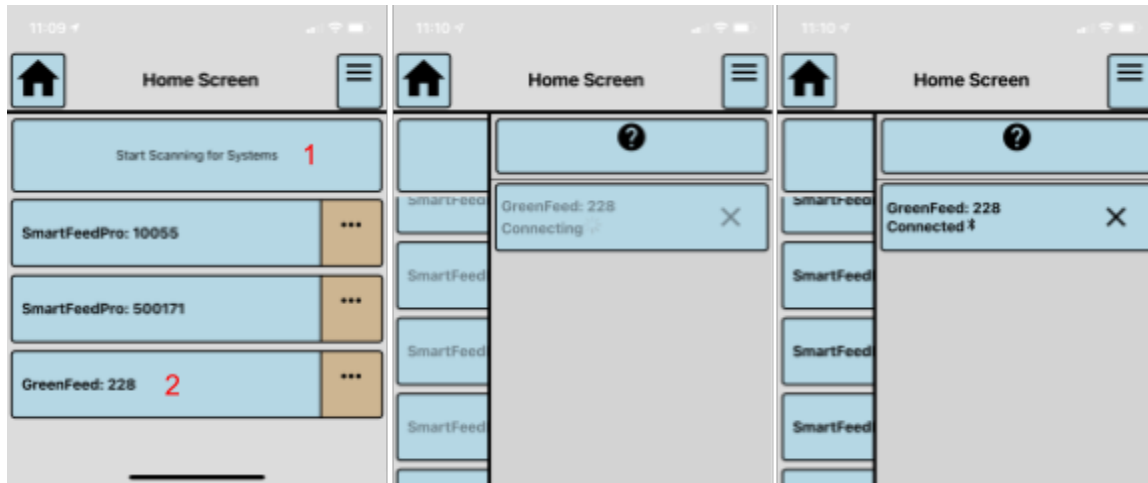

Figure 8) Scanning and Connecting to a System using Control Feed
2. A list of nearby devices will appear on the screen. See **Figure 8**.